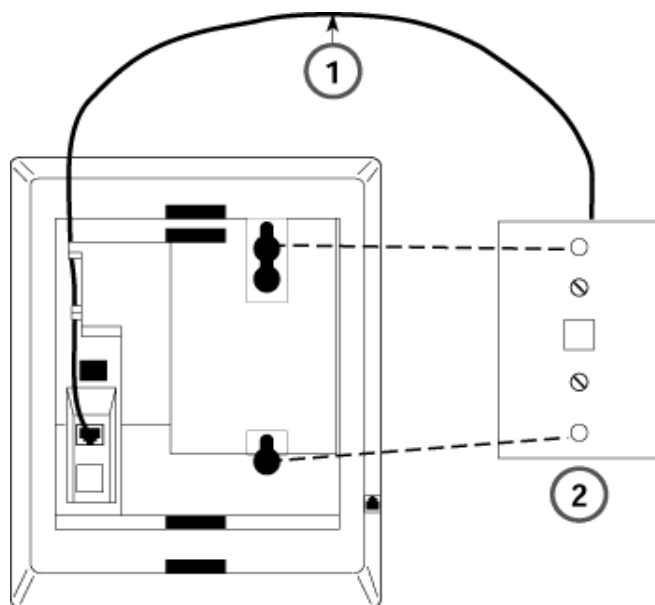

Figure 3-9. Routing the Cord Through the Backplate
5. Insert the two short screws provided with the Phonemount into the mounting plate. Be sure to thread the upper screw through the jack guard. See Figure 3-9.